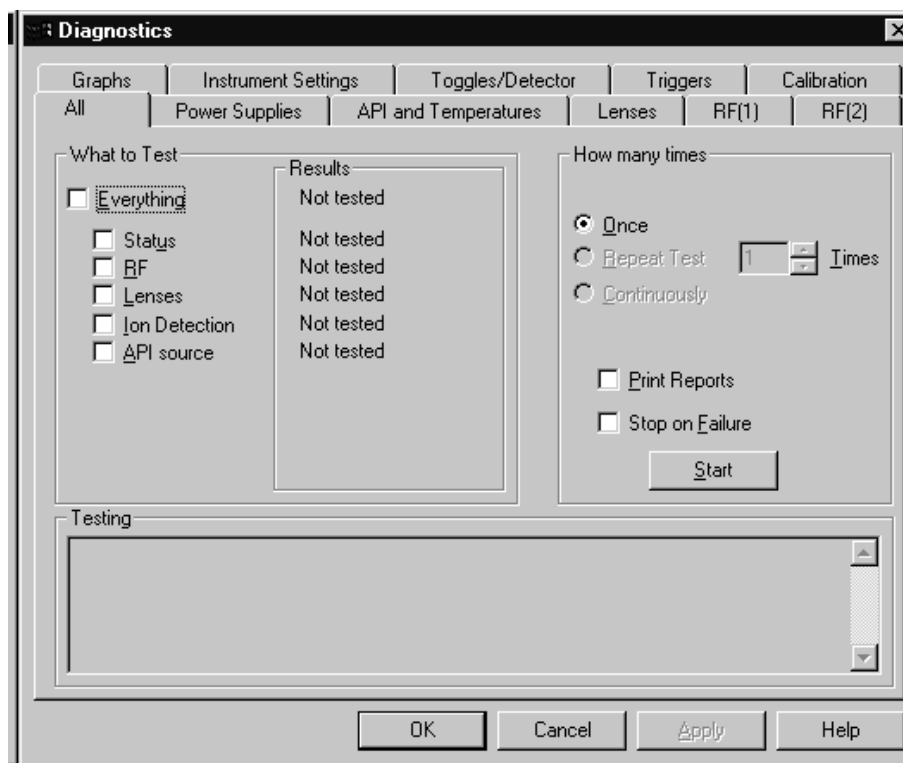

Figure 7-1. Diagnostics dialog box
2. In the Tune Plus window, choose **Diagnostics > Diagnostics**. (To open Tune Plus, choose **Start > Programs > Xcalibur > LCQ Tune**.) The Diagnostics dialog box appears. See Figure 7-1.